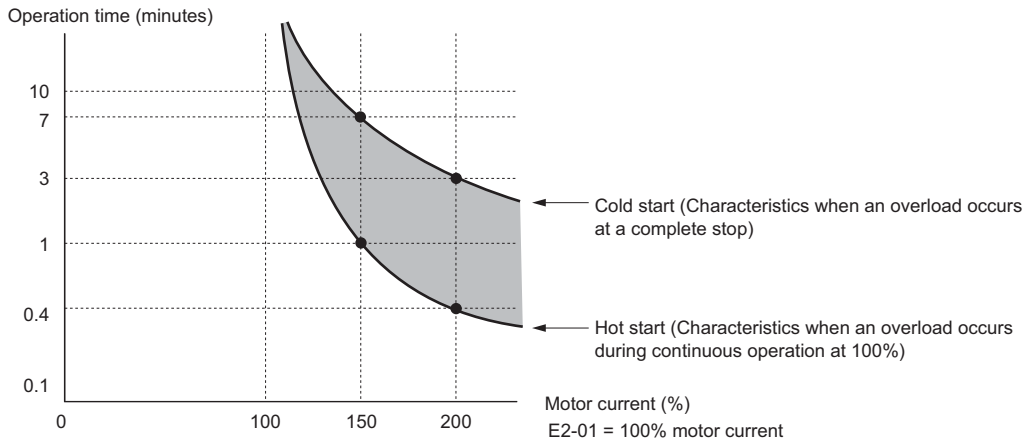

Figure 5.88 Protection Operation Time for General Purpose Motors at the Rated Output Frequency
- **Figure 5.88** shows an example of the electrothermal protection operation time using a general-purpose motor operating at 60 Hz with L1-02 set to one minute.